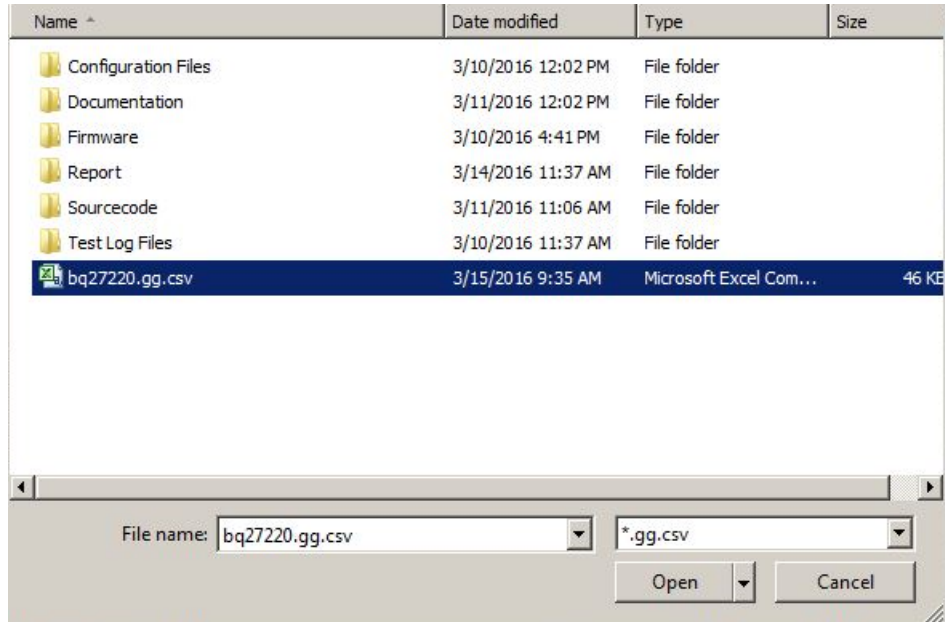

Figure B-4. Load .GG File
1. Browse to a desired template or sample *.GG parameter file. (Example: bq27220.gg.csv in Figure B-4.)